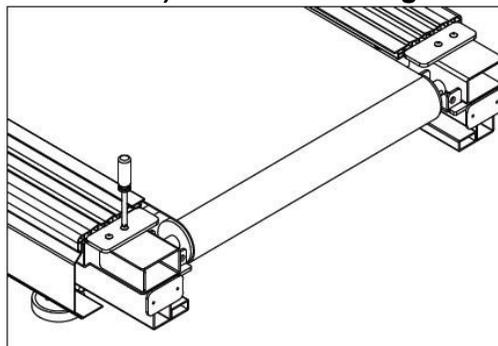

Figure 4.6.1
- 2) As shown in Figure 4.6.1, use a screwdriver to remove the screws on the rear cover.**